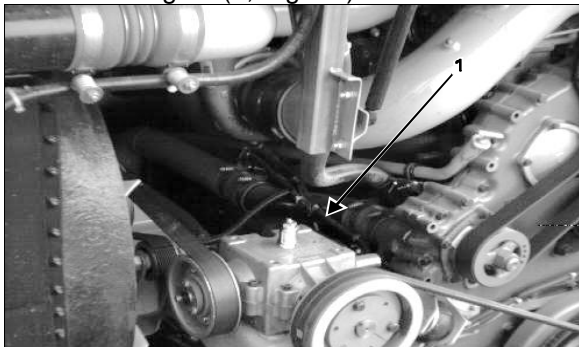

FIGURE 16: ENGINE COMPARTMENT
10. Disconnect the connector for electric fan clutch close to the water pump (1, Fig. 16).